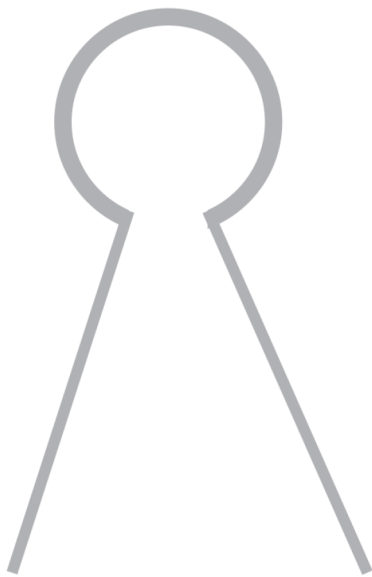

Figure 32: “Sound generation” template
- Brush over the light gray line in the template (figure 32) with silver-containing conductive varnish.